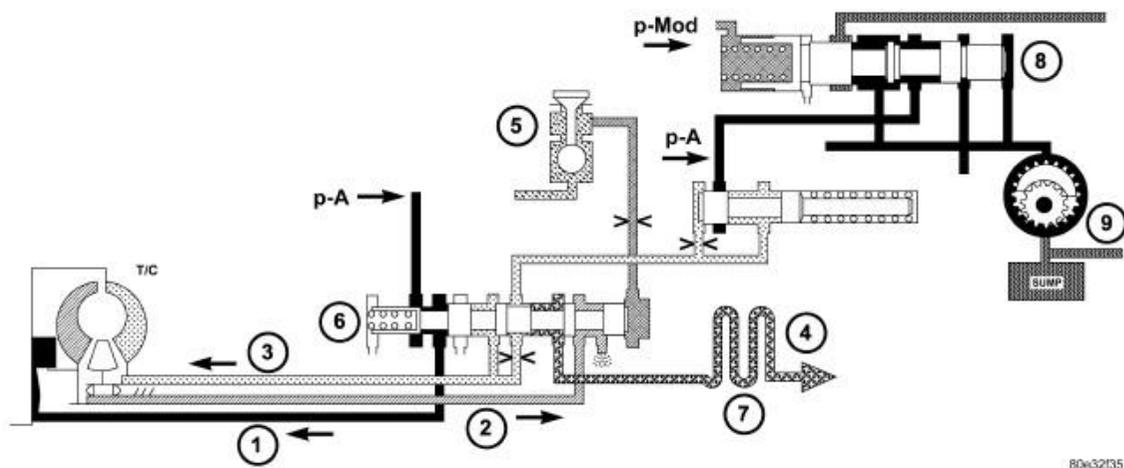

Fig. 221: Torque Converter Lockup Clutch Regulating Valve
The torque converter lock-up clutch regulating valve (6) is located in the valve housing of the electrohydraulic control module. Refer to **Fig. 221**. The valve is responsible for the hydraulic control of the torque converter lockup clutch and distribution of the lubricating oil.